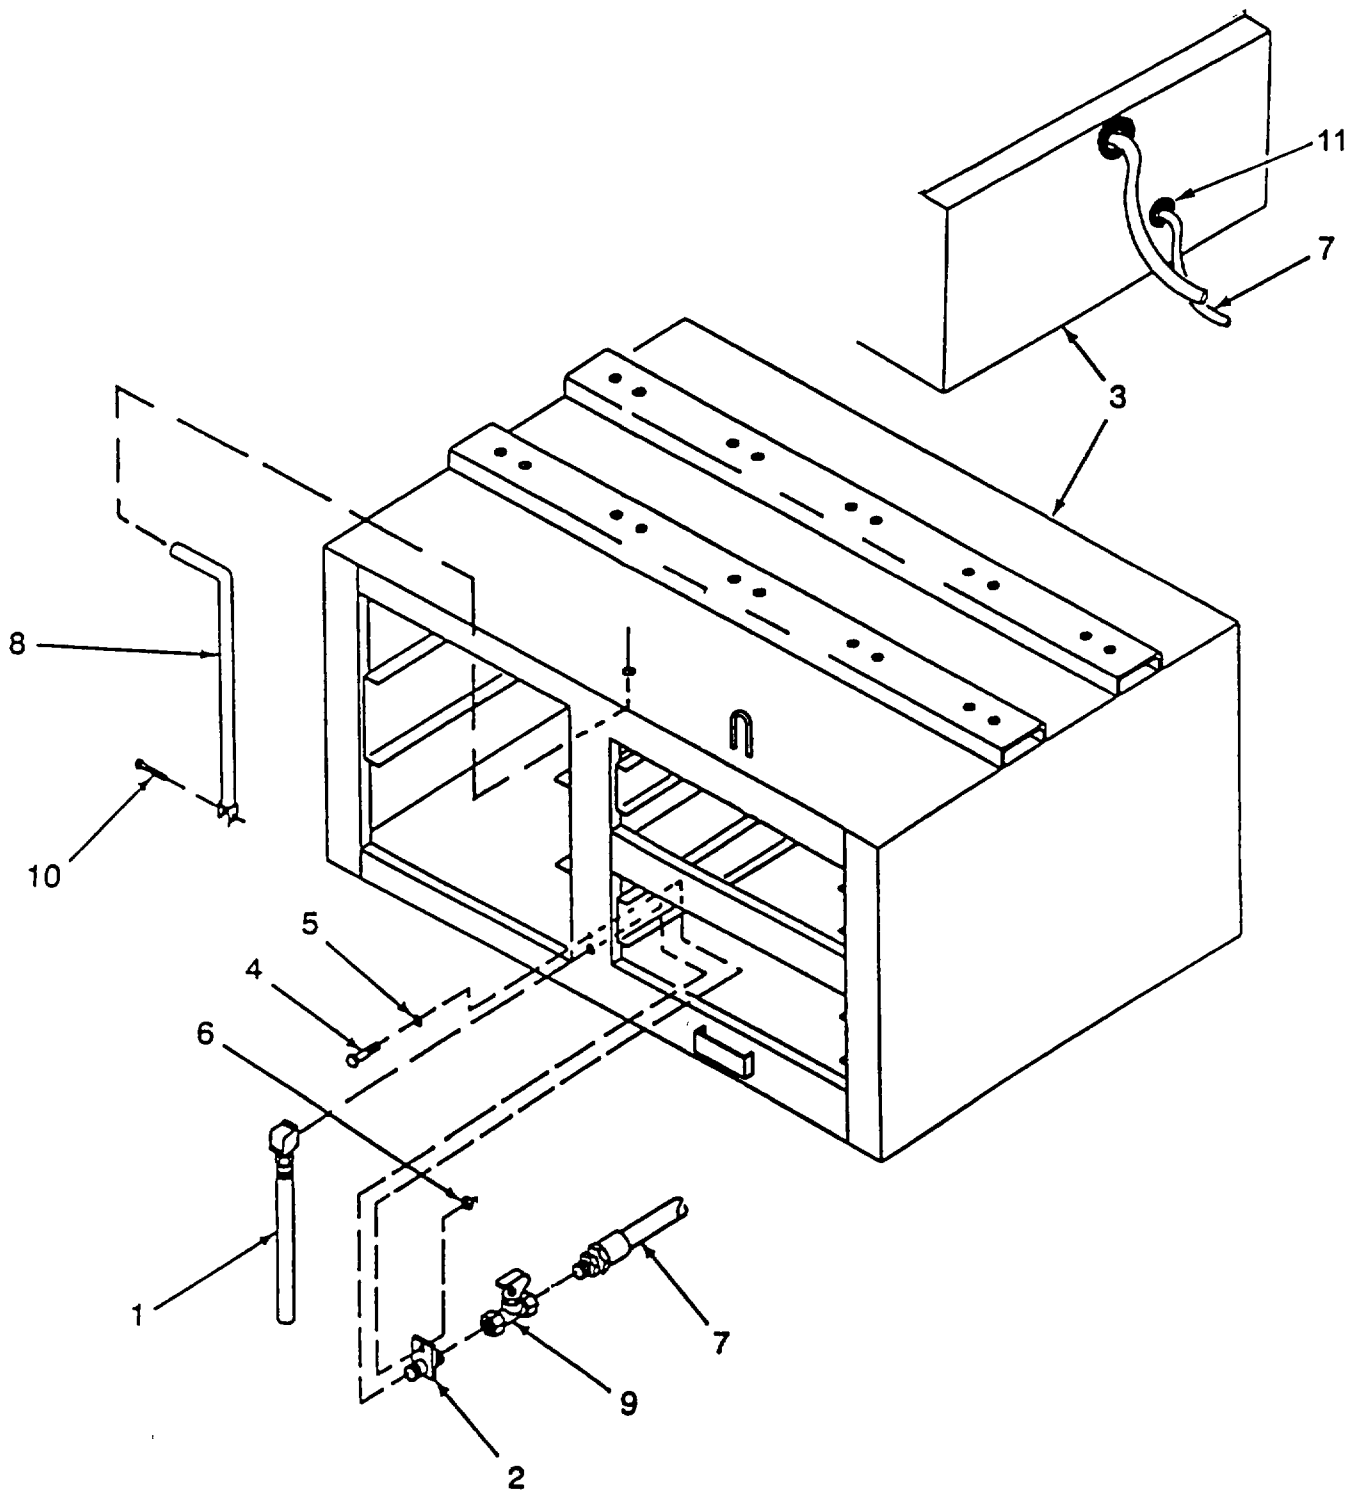

Figure 4-19. Condensate Drain Assembly
a. Removal. (Refer to Figure 4-19.)
- (1) Unscrew outer drain assembly (1) from condensate drain bracket (2).
- (2) Detach condensate drain bracket (2) from reel cabinet assembly (3) by removing hex head cap screw (4), washer (5), and self-locking nut (6) Discard self-locking nut.
- (3) Disconnect drain hose assembly (7) from side of air-receiver tank Remove grommet (11) and pull drain hose assembly (7) forward through hole in back of reel cabinet (3).
- (4) Remove lever (8) from condensate drain valve (9) by removing cotter pin (10).
- (5) Remove lever (8) from cabinet by pulling it down through hole in top of reel cabinet (3).
- (6) Unscrew and remove condensate drain bracket (2) from condensate drain valve (9).
- (7) Remove condensate hose assembly (7) from condensate drain valve (9).